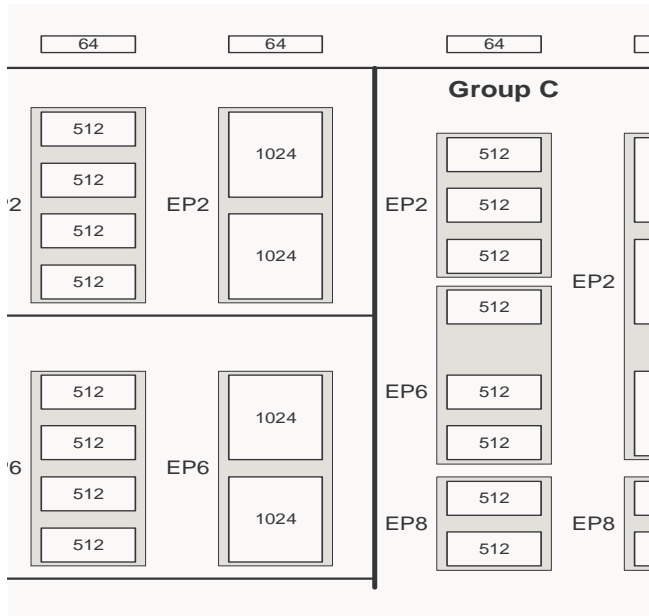

Figure 3-1. Endpoint Configuration
- EP2, 4, 6, 8–Eight 512-byte buffers, bulk, interrupt, or isochronous. EP2 and EP6 can be either double-, triple-, or quad-buffered. EP4 and EP8 can only be double-buffered. For high-speed endpoint configuration options, see *Figure 3-1*.
Endpoint 0 is the same for every configuration as it serves as the CONTROL endpoint. For Endpoints 2, 4, 6, and 8, refer to *Figure 3-1*. Endpoints 2, 4, 6, and 8 may be configured by choosing either: